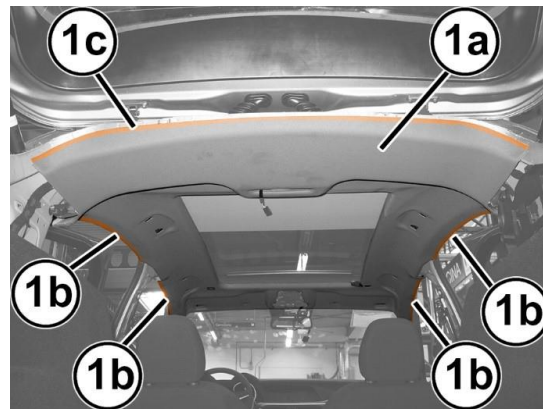

Figure 23 – Roof Lining Weather Strips
52. Release the roof lining (1a) from the weather strips (1b) of the door frames and from the weather strips (1c) of the tailgate frame (Figure 23).
10. **Engage the weather strips of the door frame (1b) and tailgate frame (1c) to the roof lining (1a) (Figure 23).**